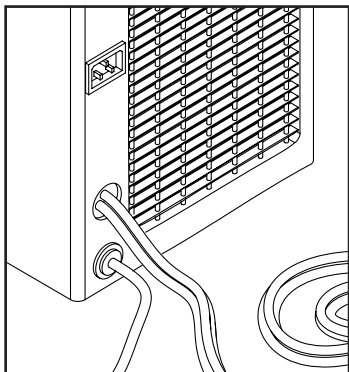

Fig 1
6. Connect the open end of the tube to the 8mm push fit located on the dispenser (see Fig 1).